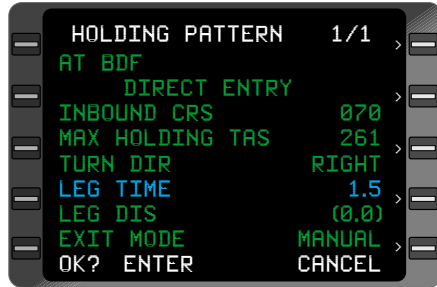

Figure 3-90
3. **ENTER** Key - DEPRESS to display the **HOLDING PATTERN** Page with both the **OK? ENTER** and **CANCEL** option. (Figure 3-90)